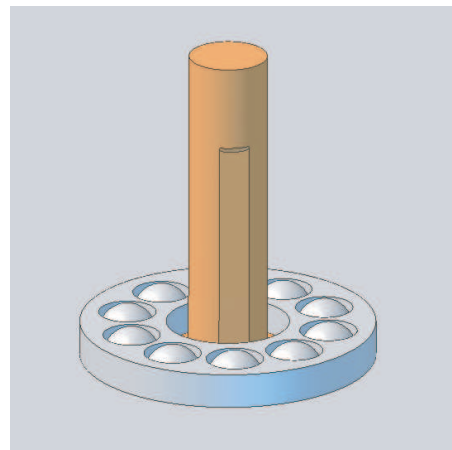

Fig. 2 Ball thrust bearing over bolt
4) Where the end of the bolt now protrudes through the floor of the rocker box, place the supplied 10mm ball thrust bearing over it. The bearing should now be seated on the floor of the rocker as shown in Fig. 2.